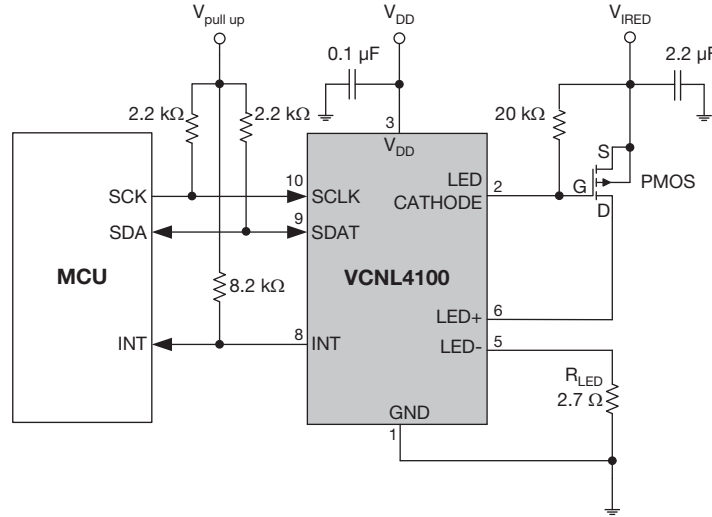

Fig. 10 - Application Diagram
- (1) Light source: white LED
- (2) Maximum detection range to ambient light can be determined by ALS refresh time adjustment. Refer to table 17 “ALS Resolution and Maximum Detection Range”
- (3) Based on IRED on / off duty ratio = 1/5120, 1/640, 1/80, and 1/20. The circuitry should use an external MOSFET as shown with fig.10. Please see also the Application Note “Designing the VCNL4100 into an Application” ([www.vishay.com/doc?84361](http://www.vishay.com/doc?84361)).